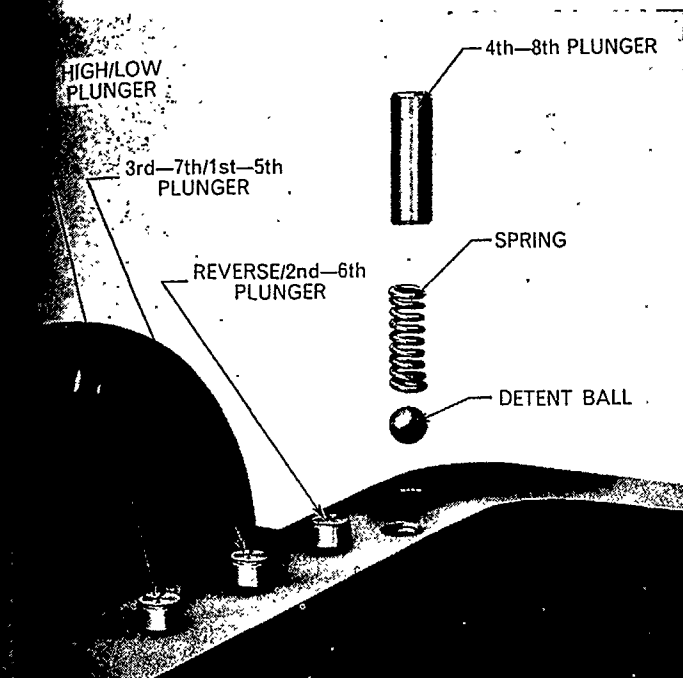
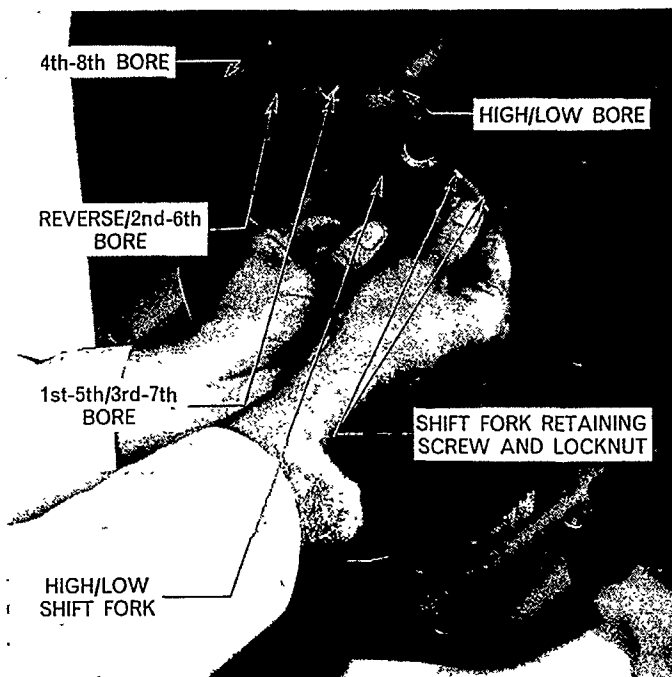

Figure 41
Figure 42
1. Extract the four shift rail plungers and springs from their bores, Figure 41. Pull the High/Low shift fork rearwards, and remove the sliding coupling. Loosen the locknut and remove the screw retaining the fork. Remove the fork to the rear, Figure 42.